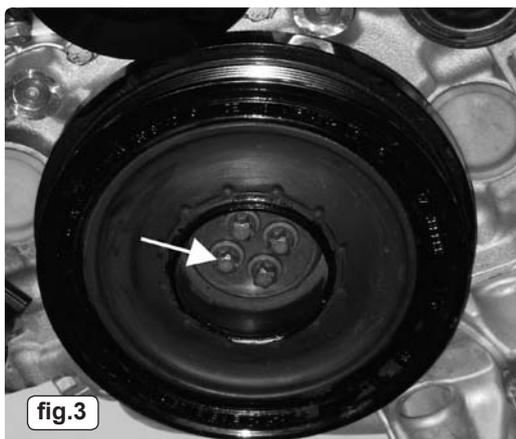

fig.3
- 3.1.2. Insert the VS5013 Crankshaft Turning Tool onto the front of the crankshaft pulley, locating it on to the heads of the 4 pulley retaining bolts (figs 3 and 4). Use VS5013 to turn the engine by hand in the **normal direction** to TDC No.1 cylinder position, and then push VS5011 the Flywheel Locking Pin further in to locate it into the datum hole in the flywheel. The crankshaft is now timed in the correct position.